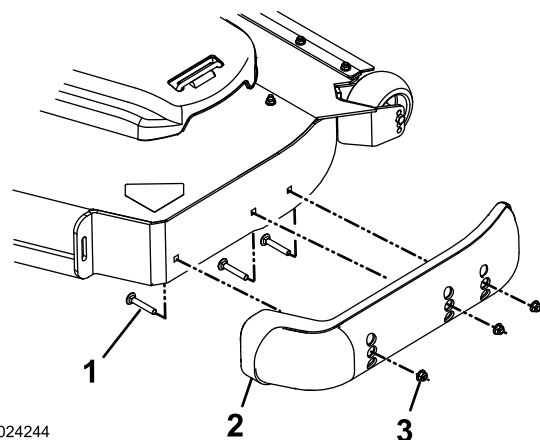

Figure 34
3. Remove the carriage bolts and nuts from each skid (Figure 34).